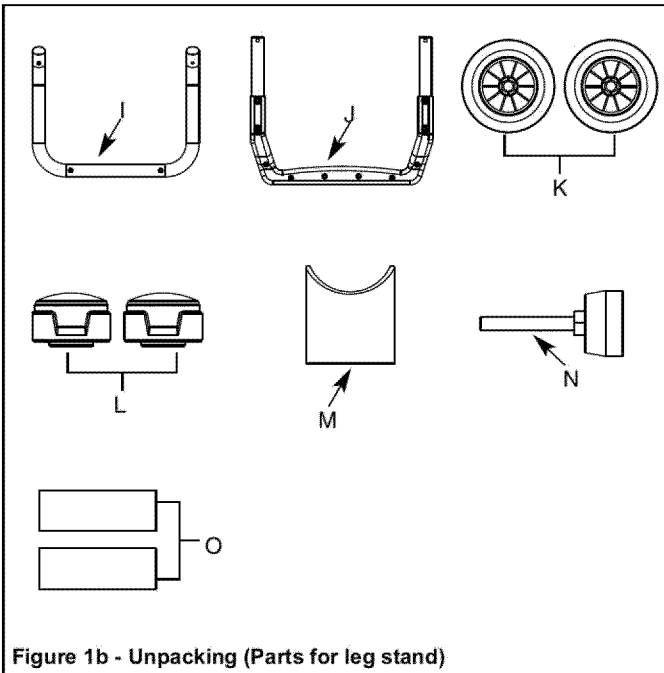

Figure 1b - Unpacking (Parts for leg stand)
- Group the leg stand parts by type and size. Refer to figure 1b for correct quantities.
- Attach the tubes of the stand support (1) with the corresponding tubes of the stand assembly (2) and align the holes.
- Insert the M8 x 75 socket head bolt (3) on the leveling foot (4) assembly into the hole (with a M8 hex nut welded on it) and tighten the bolt (3) with 6mm hex wrench (supplied). Secure the locking knob (5) by turning it clockwise.
- Secure the shock absorption pad (6) with a M8 x 65 socket head bolt (7) and a M8 flat washer (8) on the other hole with 6mm hex wrench (supplied). Tighten the locking knob (9) clockwise.
- Slide one M10 big flat washer (10), roller sleeve (11), wheel (12) and M8 big flat washer (13) and M8 hex nut (14) on the axle